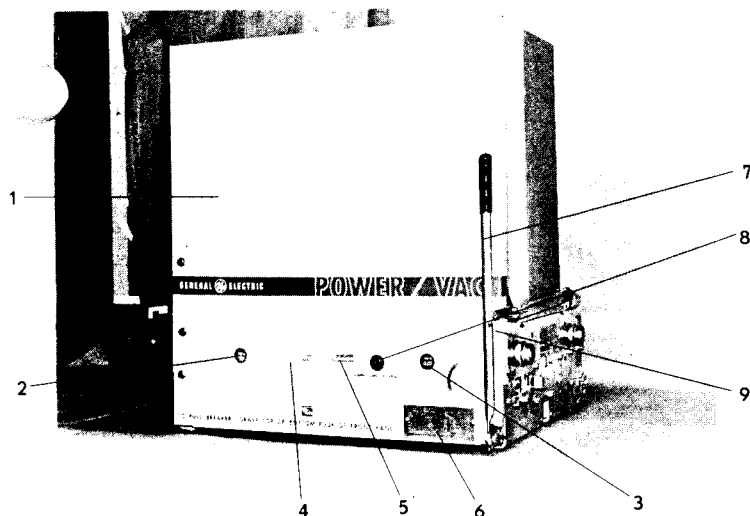

Fig. 1 — Power/Vac* Breaker — Front View
If control power is lost, or manual operation desired, the close spring may be manually charged by using a $\frac{3}{8}$ inch hex socket ratchet-type wrench to rotate the manual charging wind shaft, (8) Fig. 1, in the direction indicated by the arrow until the yellow indicator shows "CHARGED".